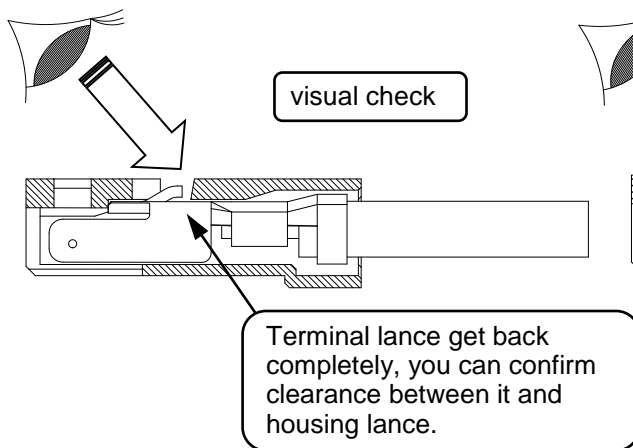

Fig.3 The case of correct insertion
- ⑤ After inserting all terminals, please confirm the position of terminal lance part by seeing through window of receptacle housing lance. If they are inserted correctly, terminal lance is at the position where terminal lance get over housing lance properly and you can confirm clearance by shaking them insertion axially lightly.(Fig.3,4,5)